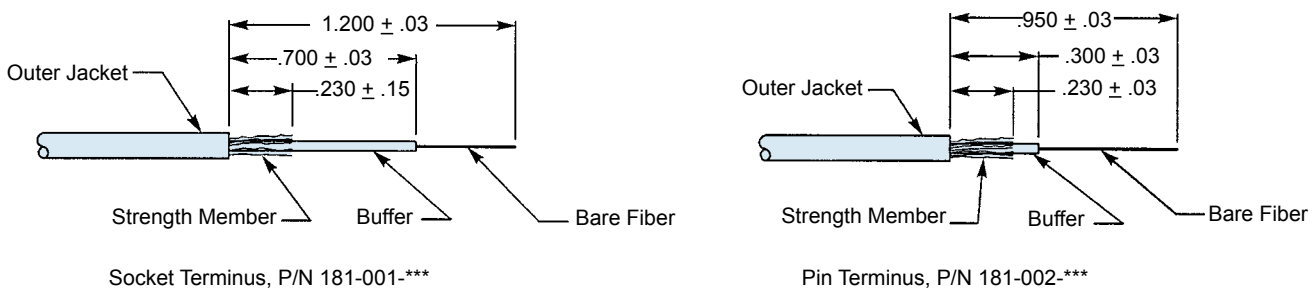

Figure 1
- Measure and Strip Fiber to Appropriate Length per Figure 1.